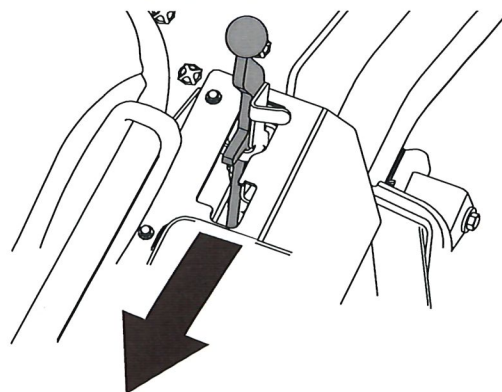

Figure 17
2. Engage the parking brake by placing drive control pedals in neutral and pulling the parking brake lever back. See Figure 17.